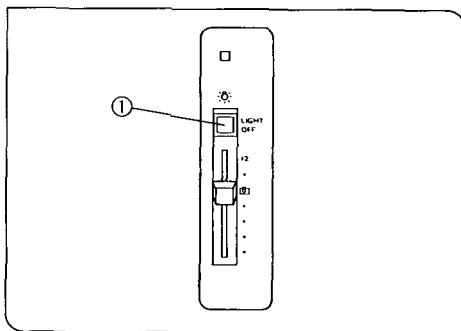

Fig. 51
**Microscope Frame (IX70)** (Fig. 51)